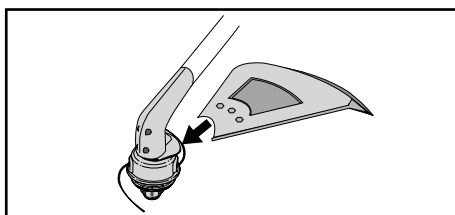

Fig. 6
1. Slide the string guard onto the guard mount above the string head assembly. Align the screw holes in the string guard with the screw holes in the string assembly (Fig. 6).